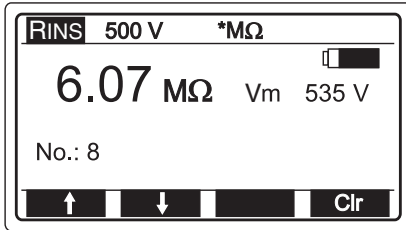

Figure 112: 'Display of Measurement values' Menu
- The menu 'Display of Measurement values' (Figure 112) can be aborted by pressing key 'ESC' (12).